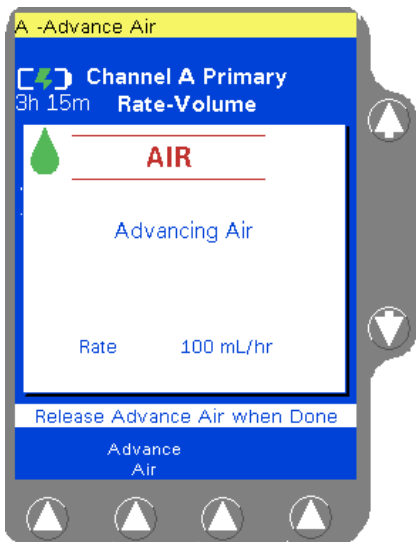

Figure 8-10 Advancing Air
2. Press and hold the **Advance Air** soft key. The pump pumps at the currently programmed rate to advance the air bubble (Figure 8-10). An **Advance Air** alert occurs while the advance air mode is in use.